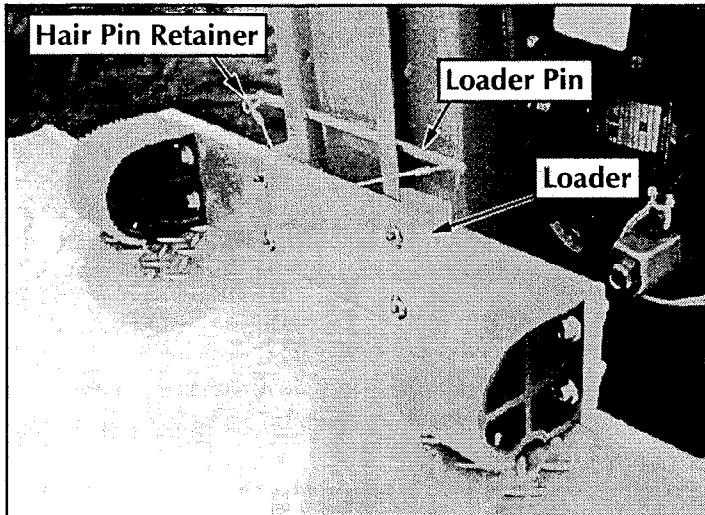

Figure 3-4: Large Loader, in load position
If your Loader looks like the one in Figure 3-4, follow these directions, if not refer to the following section on Compact Loaders, page 3-8:
3. Remove the loader pin and slide the loader down until it comes into contact with the vehicle bed, Figure 3-4. Then replace the loader pin in the first available set of holes **above** the loader and secure with the hair pin retainer.